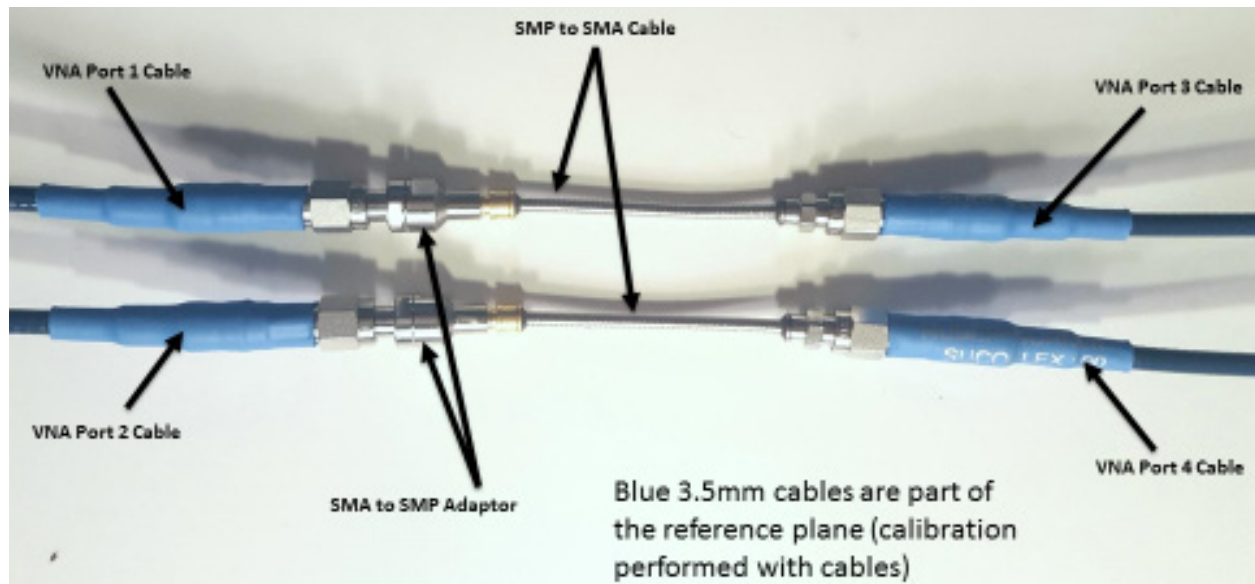

Figure 9. Characterize SMP-to-SMA Adapter
- SMP-to-SMA adapter IL must be comprehended for removal (see Figure 9).